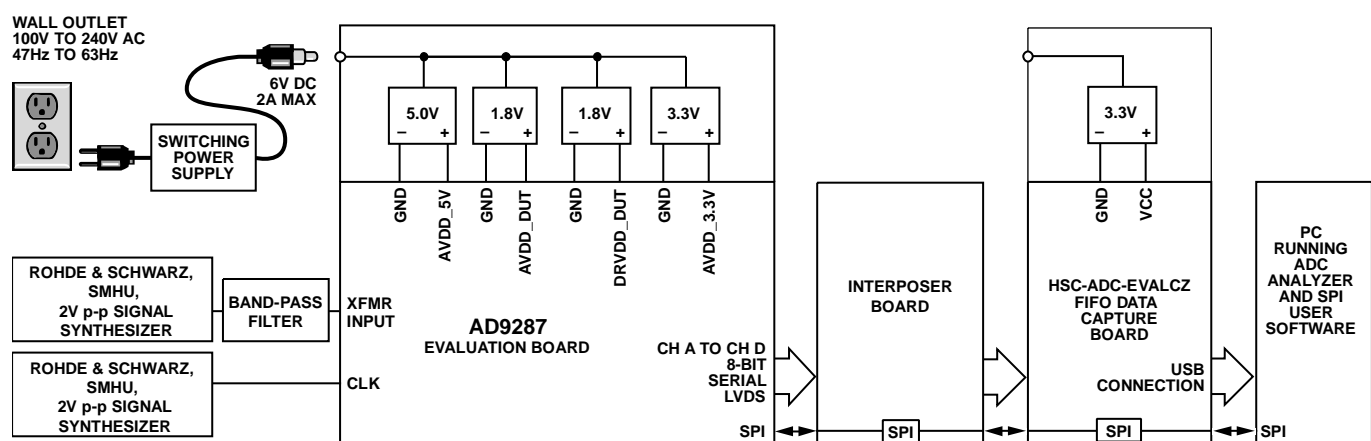
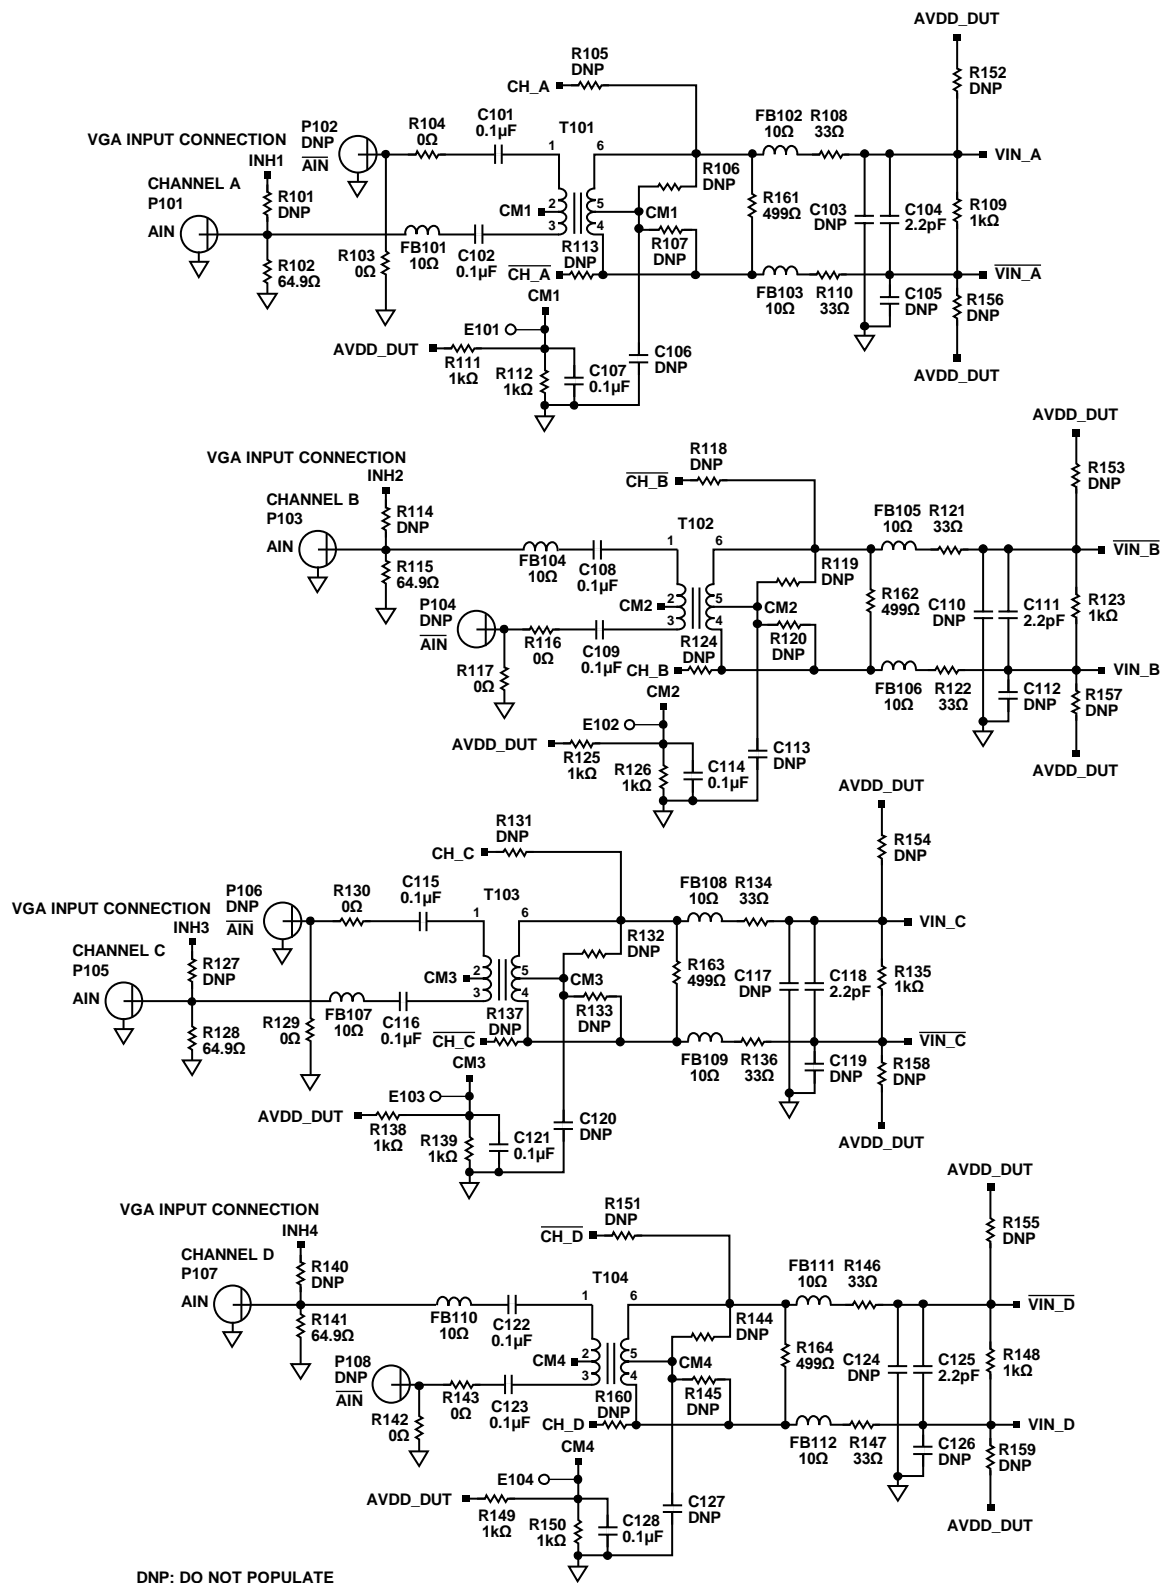
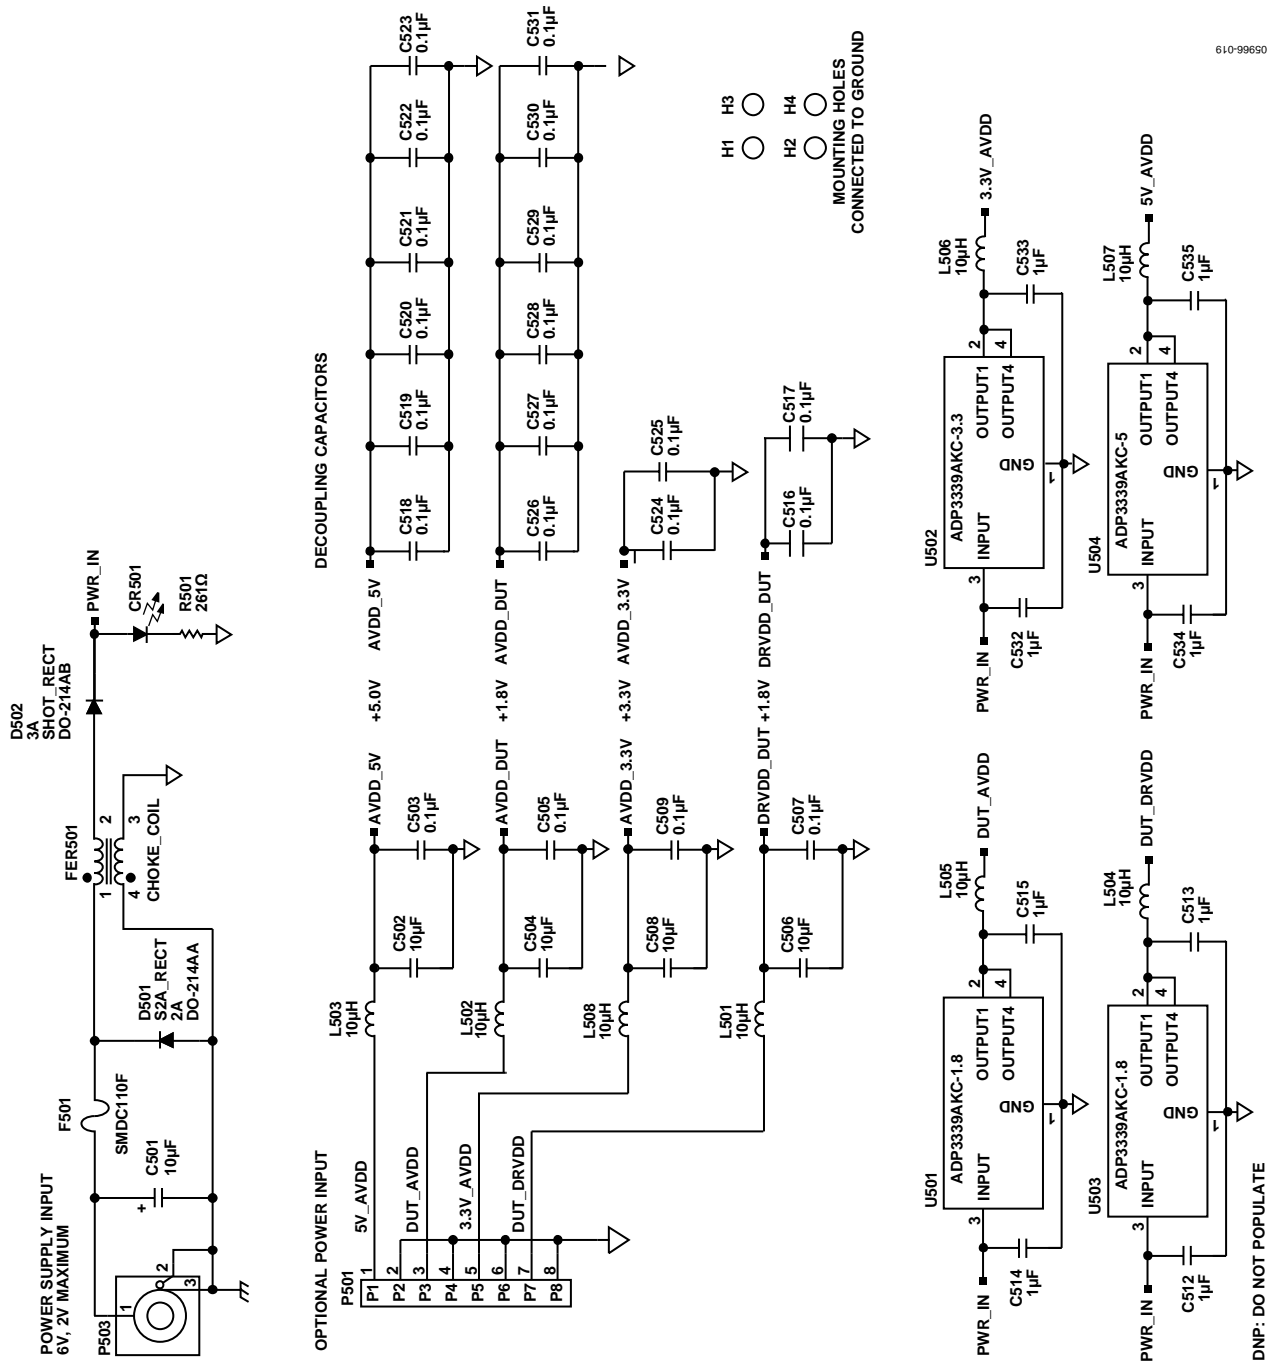

Figure 60. Evaluation Board Connection
Figure 62. Evaluation Board Schematic, DUT Analog Inputs
Figure 66. Evaluation Board Schematic, Power Supply Inputs
The AD9287 evaluation board provides all of the support circuitry required to operate the ADC in its various modes and configurations. The converter can be driven differentially using a transformer (default) or an AD8332 driver. The ADC can also be driven in a single-ended fashion. Separate power pins are provided to isolate the DUT from the drive circuitry of the AD8332. Each input configuration can be selected by changing the connection of various jumpers (see Figure 62 to Figure 66). Figure 60 shows the typical bench characterization setup used to evaluate the ac performance of the AD9287. It is critical that the signal sources used for the analog input and clock have very low phase noise ( $<1$  ps rms jitter) to realize the optimum performance of the converter. Proper filtering of the analog input signal to remove harmonics and lower the integrated or broadband noise at the input is also necessary to achieve the specified noise performance.
See Figure 62 to Figure 70 for the complete schematics and layout diagrams demonstrating the routing and grounding techniques that should be applied at the system level.
- **D + x, D - x:** If an alternative data capture method to the setup shown in Figure 60 is used, optional receiver terminations, R206 to R211, can be installed next to the high speed back-plane connector.